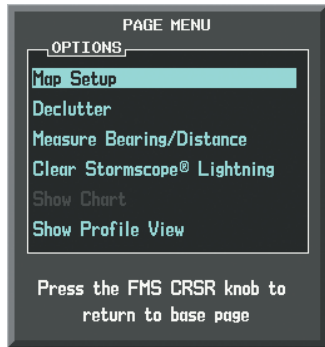

Figure 6-51 Navigation Map Page Menu
- 3) With Map Setup highlighted, press the **ENT** Key (Figure 6-51).